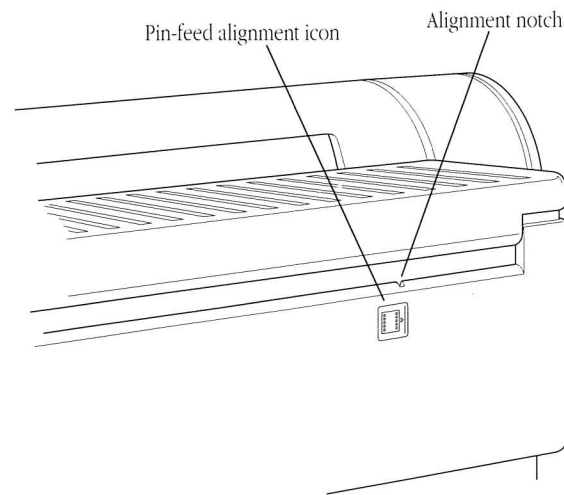

Figure 2-14 The pin-feed alignment icon
7. Find the pin-feed alignment icon on the back panel of the printer and the alignment notch directly above it. (See Figure 2-14.) Slide the tractor until the paper edge (not the perforation) is lined up with the notch and the vertical line on the icon.